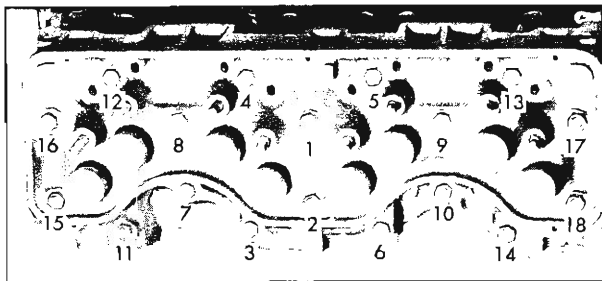

Fig. 5W—Cylinder Head Torque Sequence
5. Tighten each cylinder head bolt a little at a time in the sequence shown until the specified torque is reached (fig. 5W).